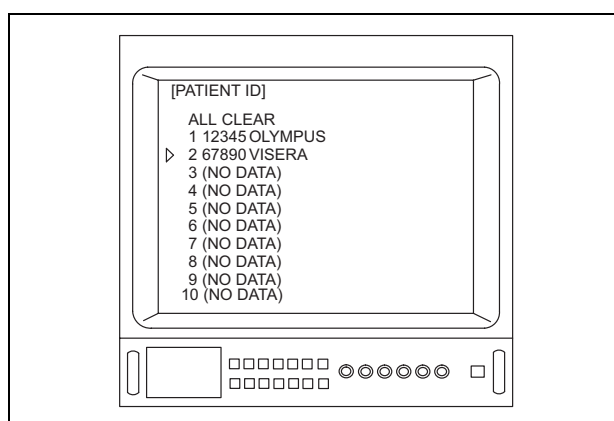

Figure 5.52
4. Depress the menu switches “” or “”, or the “” key on the keyboard to move the arrow “” to the patient number that you would like to display (for example, “2”) (see Figure 5.52).